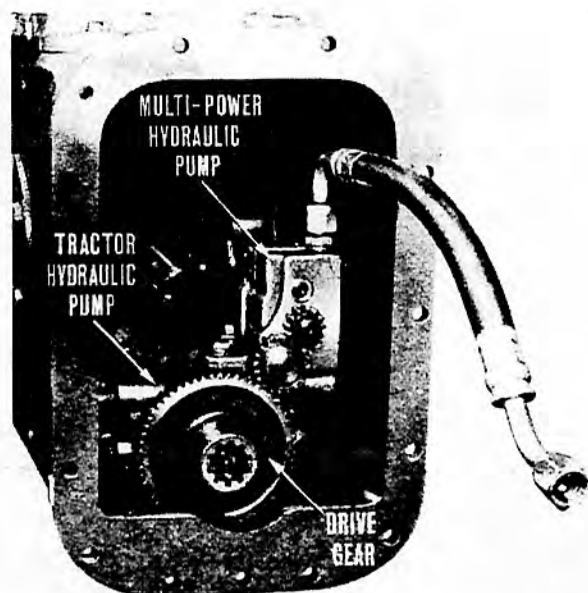

FIGURE 27. HYDRAULIC PUMP INSTALLATION
1. Disconnect hose assembly at pump (Figure 27).